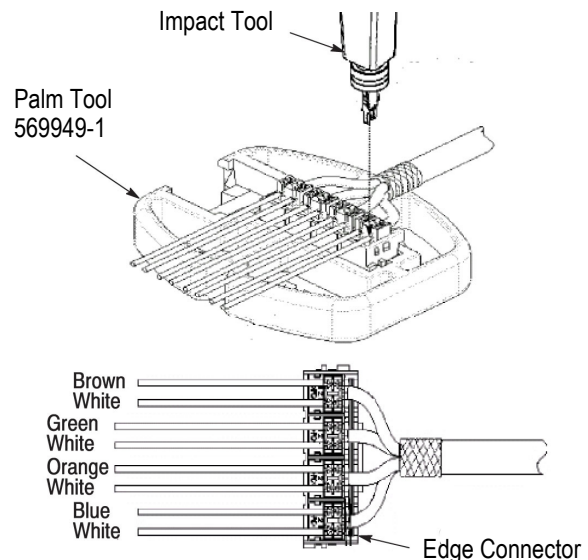

Figure 3
- Insert edge connector into Palm Tool 569949-1 as shown in Figure 3.
3. Terminate the wires only with Tyco Electronics Tool 1583608-1 (standard) or 1375309-1 (long life). Ensure that the tool is set for "LO" impact force (see Figure 3).